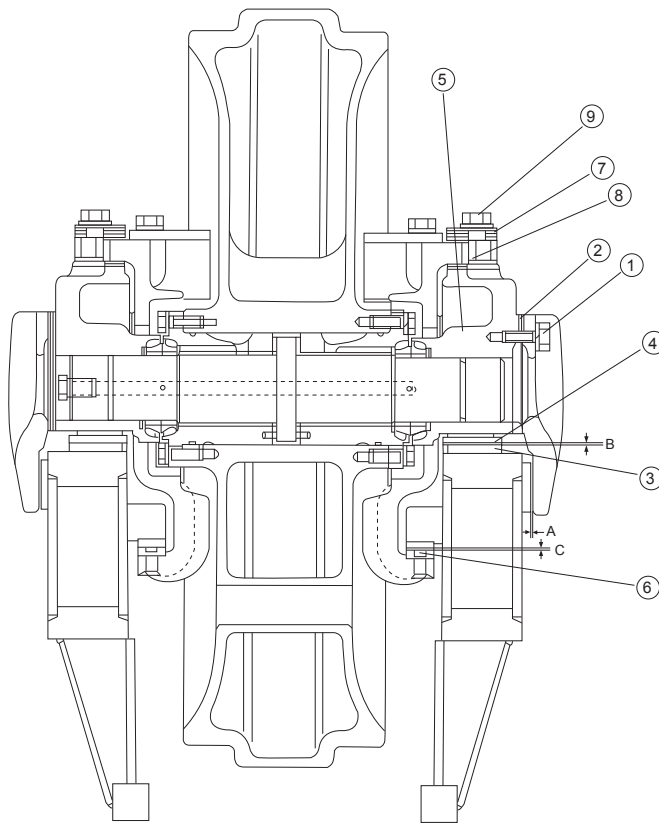
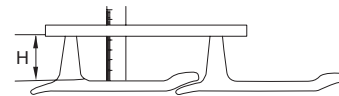

Figure 4-48
Figure 4-50
1. Adjusting the guide plates on the side(Figures 4-48~49)
- If any of the clearances is over 4mm, loosen bolt (1), remove certain number of shims (2), and then adjust the clearances to the standard values: 0.5~1.0mm. The shim's thickness is 0.5~1.0mm.
- When loosening the bolt (1), be sure not to rotate the bolt for more than 3 turns.
2. Adjusting the directing plates (4) and the top & bottom guide plates (6) (Figures 4-50~4-51)
- Measure the clearance “B” between the track frame’s upper wearing plate (3) and the directing plate (4) as well as the clearance “C” between the top & bottom guide plates (6) and the track frame’s lower wearing plate. If the sum of the two clearances “B” and “C” is over 5mm, reduce it to 2mm. The method is to pull out shim (7), to reduce it to the required thickness, and add a shim of the same thickness to shim (8). Such adjustment can be completed using the following procedure.
- It is normal if clearance “C” is 0mm. Measure clearance “B” and minus 2mm from the value of “B” to get the shim’s thickness (for example, if B=5mm, then the adjusting shim’s thickness should be $5-2=3\text{mm}$). Shims (7) and (8) can be shims that can be pulled out.
- Loosen bolt (9) (there are a total of 4 bolts inside and outside) until you can’t feel the force of the spring.
- Loosen bolt (1). Be sure not to rotate the bolt for more than 3 turns.
- Use a stick to adjust guide frame (5) upward, to make clearance “C” 0mm. Remove shim (7) according to the required shim’s thickness determined in the first step. Add shim (7) to shim (8) (you need to complete this process for 8 places: the inside and outside of the left and right guide plates as well as the front and back of each side. Before and after the adjustment, the total thickness of shim (7) and shim (8) combined remains the same. If the total thickness of the two shims is increased or decreased due to carelessness, the preload of the spring installed within the guiding device will become inappropriate. Shim (7) and shim (8) are consisted of several pieces of two types of shims: the 1mm shim and the 2mm shim. Tighten the spring seat’s bolt (9). The tightening torque of bolt (1) is 500~620Nm. The maximum adjustment allowed for the top & bottom guide plate is 6mm.
- Take a tight track shoe and measure the height of grouser. (Figures 4-50 and 4-51)